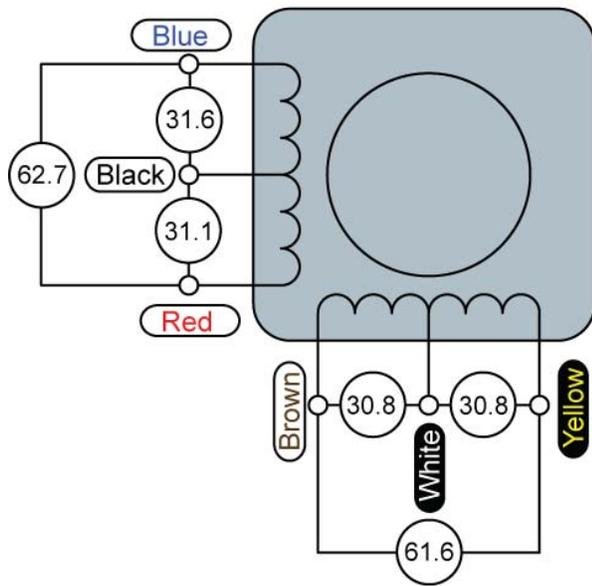

Figure 13: #155433 Stepper Resistances
- To now, our Jameco stepper motor #155433 in Figure 13 has two of the six wires (black and white) connected as shown in Figure 14.